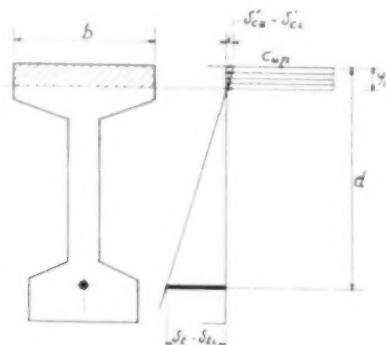

Fig. 1.—Distribution of Stresses at Failure.
(1) If the steel has a cross-sectional area  $A_s$  less than about 0.2 per cent. of the product  $bd$ , failure occurs mostly by the breaking of some of the wires before the top concrete is crushed. However, before failure the concrete is widely cracked so that the active section is reduced to the area  $by_1$  and the steel area  $A_s$  (Fig. 1). As the concrete is not far from being crushed in the compressive zone, it may be assumed that the stress is uniform. Hence the lever arm of the cross section just before failure is  $d - \frac{y_1}{2}$ , and the moment causing
(2) When the area of steel is greater than 0.2 per cent. the concrete is generally crushed and the steel does not break. However, here also a large crack occurs before failure and the stress distribution of *Fig. 1* can still be assumed, with a larger value of  $y_1$  compared with the first possibility; generally the part left in compression is entirely in the top flange of the beam; it is recommended that the dimensions of a beam be chosen so as to be sure that this is so (see later).